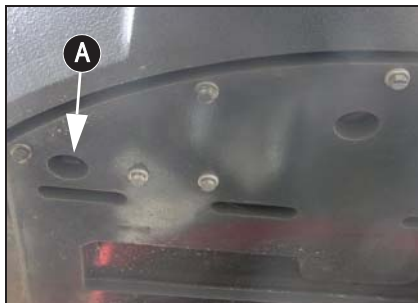

Fig. 3: Fuel drain plug
- ⚠ Place a container with sufficient capacity underneath the drain plug **A/fig.3** in the chassis